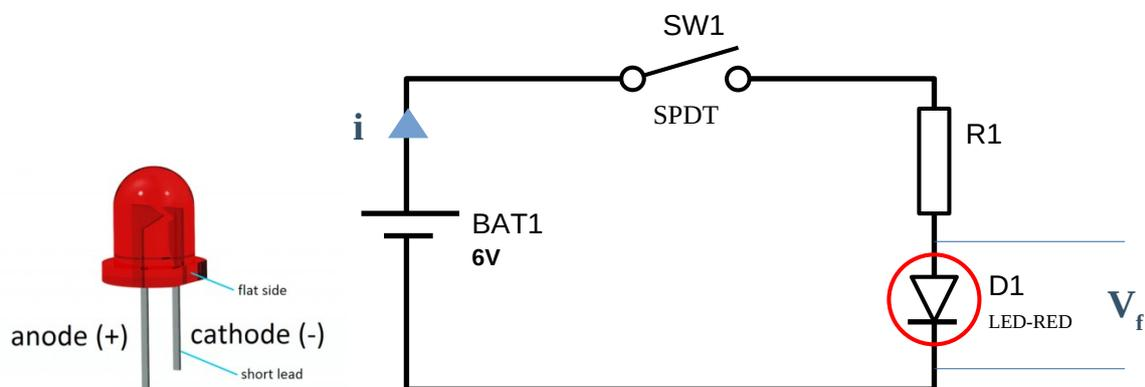

Figure 16: LED limiting resistor
It is essential therefore that the voltage across the diode never exceeds the breakdown voltage drop or the current through the diode exceed the maximum current. To prevent this a limiting resistor is placed in series with the diode. Consider Figure 16, the diode model is “Analogue”, it is specified as having a Forwarding Voltage of 2.2V and a breakdown voltage of 4V.
- 1) **Getting Started:** Build the circuit in Figure 16. Add a DC Voltmeter across the Resistor, R1 and the LED, D1. Place a DC Ammeter (set to mA) in circuit between the Resistor R1 and Diode, D1 and confirm the values calculated.